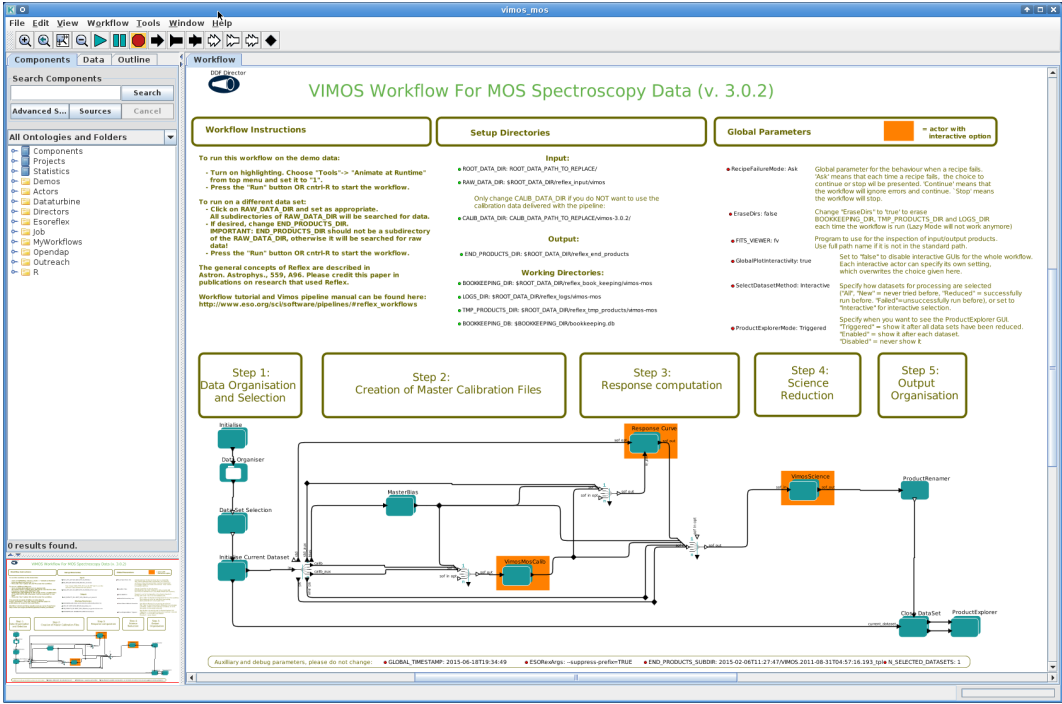

Figure 4.2: VIMOS/MOS workflow general layout.
2. Now open the VIMOS workflow by clicking on File -> Open File, selecting first `vimos-3.2.3` and then the file `vimos_mos.xml` in the file browser. You will be presented with the workflow canvas shown in Figure 4.2. Note that the workflow will appear as a canvas in a new window.